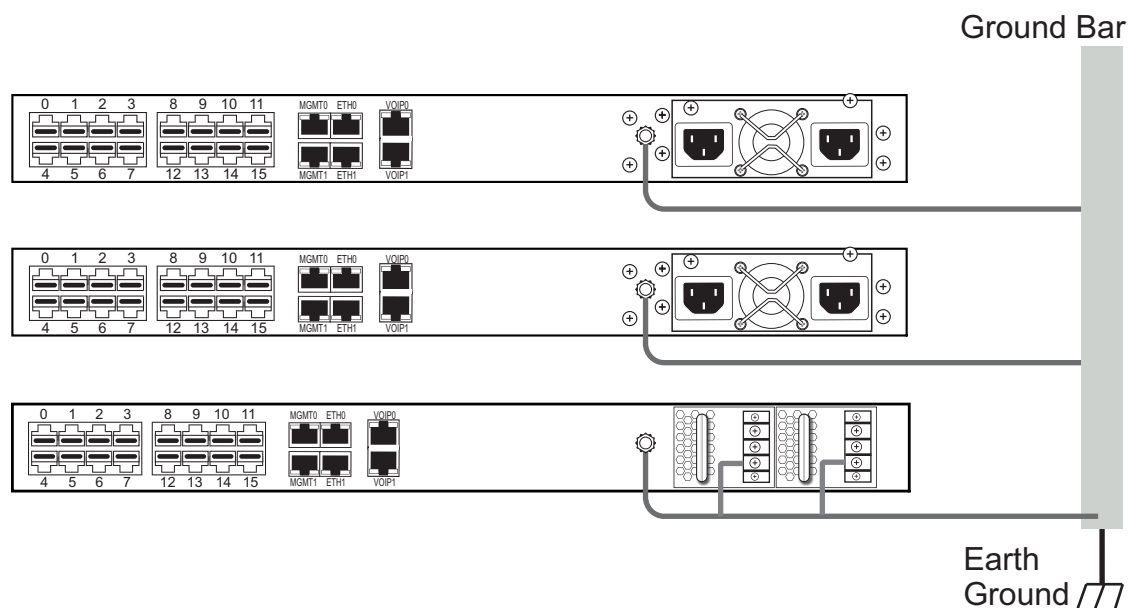

Figure 2.5 Ground Connection
- Do NOT daisy chain the ground between equipment. Use a ground bus bar, as show in figure 2.5 on page 17.
1. Connect one end of a ground wire to the ground lug of the 800 series gateway. See figure 2.5 on page 17.